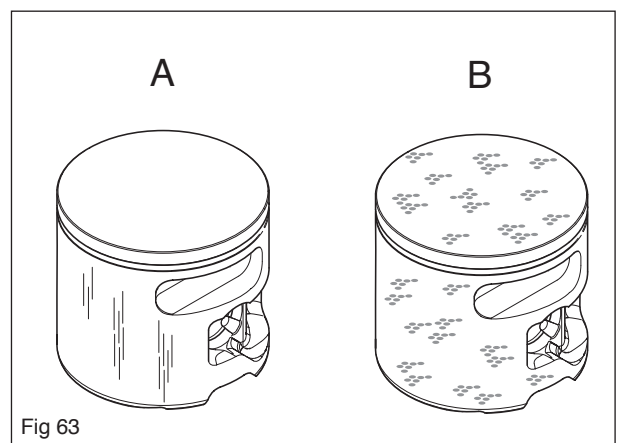

Fig 63
1. Too much or incorrect oil in the fuel. See figure 63.